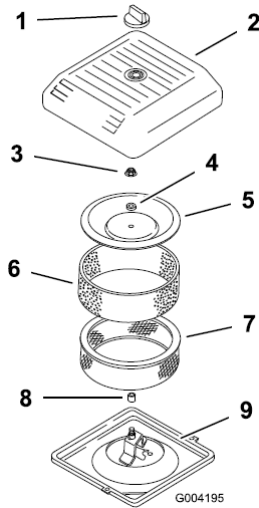

Figure 17
2. Unscrew the knob and remove the air cleaner cover (Figure 17).
3. Carefully slide the foam pre-filter off of the paper element (Figure 17).
4. Unscrew the cover nut and remove the cover, spacer and paper filter (Figure 17).
1. Carefully slide the foam pre-filter onto the paper filter (Figure 17).
2. Place the air cleaner assembly onto the air cleaner base (Figure 17).
3. Install the cover, spacer and secure it with the cover nut (Figure 17). Torque the nut to 60 in-lb (6.8 N·m).
4. Install the air cleaner cover and secure it with the knob (Figure 17).